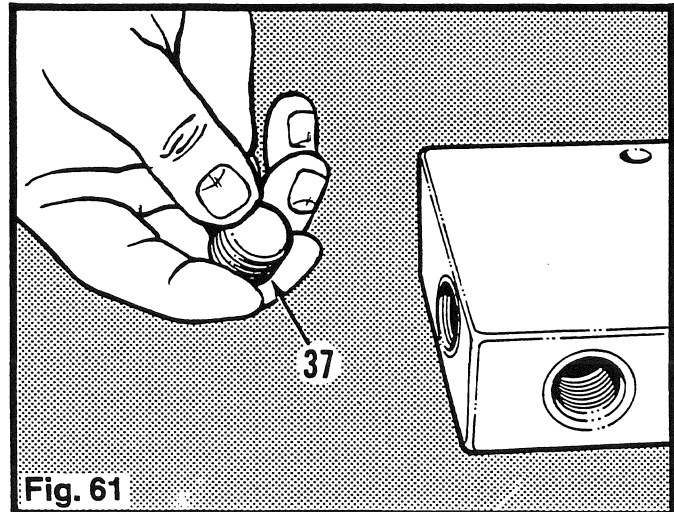

Fig. 61
10. Install the adjusting screw (37). (Fig. 61) Repeat this assembly procedure for the opposite side of the valve.